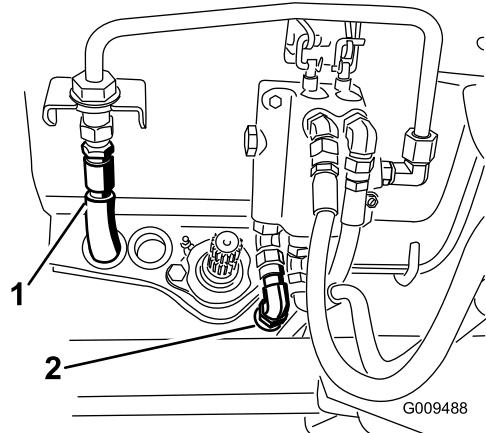

Figure 121
32. Connect the hydraulic pressure hose to the valve hard line and the tank hose to the valve (Figure 121). Retain the hose plugs for the summer change over.